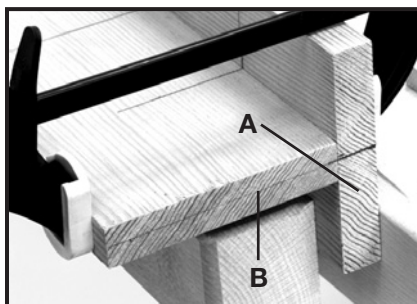

Fig. 23
3. Mark centerline of joint on workpiece "A" (see Fig. 23).
11. Follow steps 3 through 10 of **CORNER JOINTS** Section to complete required grooves in workpiece “B” Fig. 23.